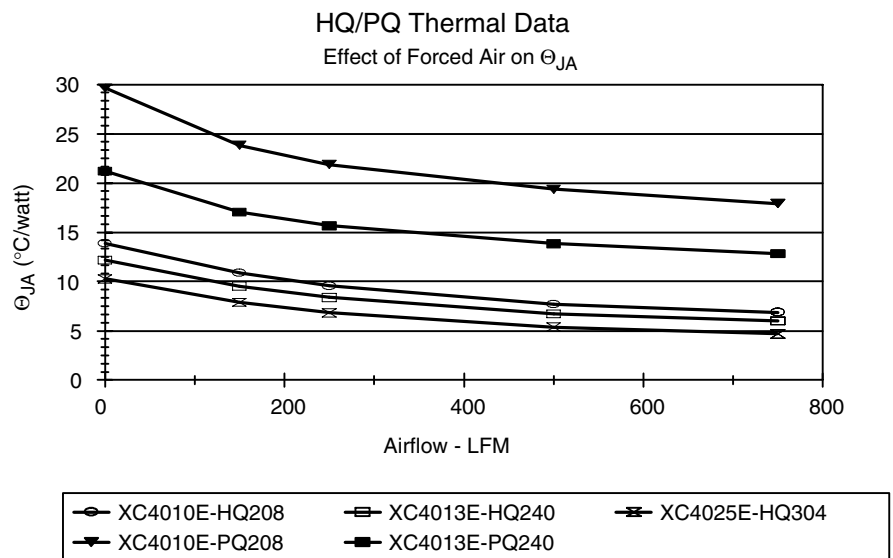

Figure 3-8: HQ/PQ Thermal Data
**Note:** Actual thermal resistance in a system can be impacted by several user conditions. In the examples that follow, it should be noted that unique user conditions will impact predictions and estimates. Such user conditions have not been taken into consideration in the examples. One of the main influences on thermal resistance is board conditions. Figure 3-9 shows a table that illustrates how the thermal resistance of a Flip-Chip package (FF1148) is influenced by the board characteristics. The package with a high conductivity JEDEC board-based measured  $\theta_{JA}$  of 10.1°C/watt can exhibit almost a 50% reduction in  $\theta_{JA}$  if a 10" square board with 16 copper layers is used. Other user boundary conditions can also affect the effective thermal resistance in a system. Figure 3-8 depicts the impact when airflow is applied to packages. In general, as users work their way through these examples, external influences have not been taken into account in the estimates.